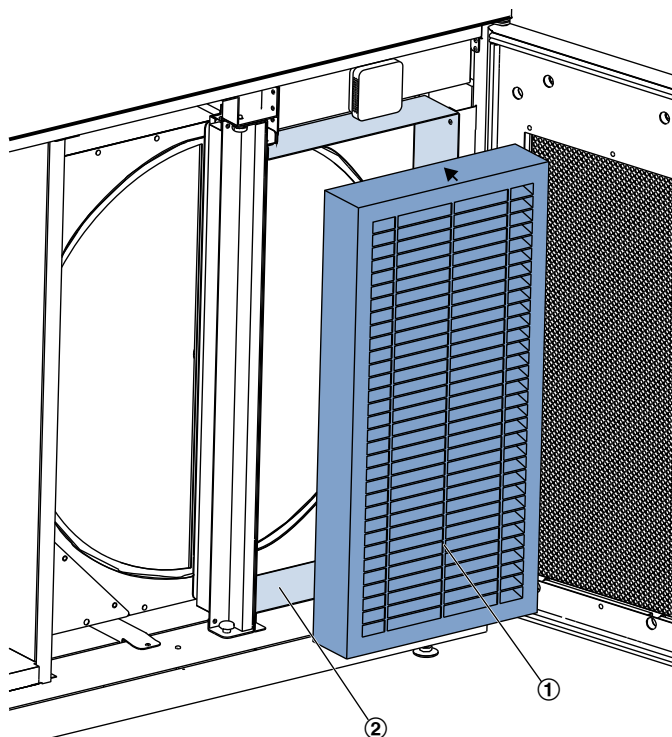

Fig. 58: Extract air filter
4. ▶ Pull the extract air filter (Fig. 58 /1) out of the filter chamber (Fig. 58 /2).